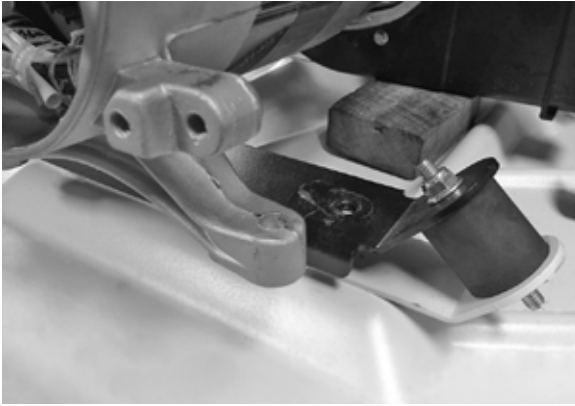

Figure 131.
- c. Lift rotor/stator assembly enough to place a 2x4 wood block under the alternator air intake duct. Refer to Figure 131.